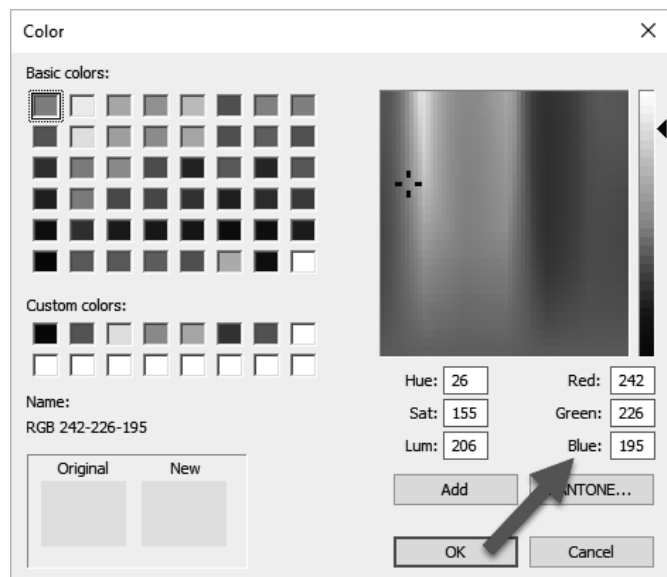

FIGURE 4-3.18 Materials dialog; Adjust appearance color
49. Change the RGB numbers as follows (Figure 4-3.18):